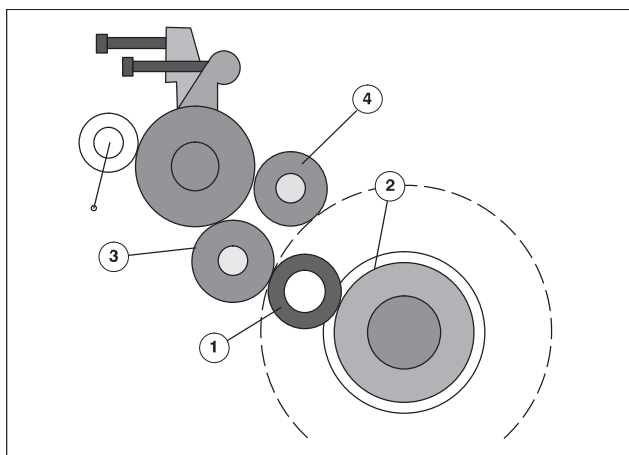

Fig. 37 Adjusting the inking form rollers with the adjusting ring
The inking form rollers can also be adjusted to the numbering boxes using the adjusting ring (Fig. 37/1). The outside diameter of the adjusting ring corresponds to the height of a numbering box.
1. Attach the adjusting ring to the mounting ring holder (Fig. 37/2) and then push through under the inking form roller (Fig. 37/3).
2. Proceed in the same way with the upper inking form roller (Fig. 37/4).